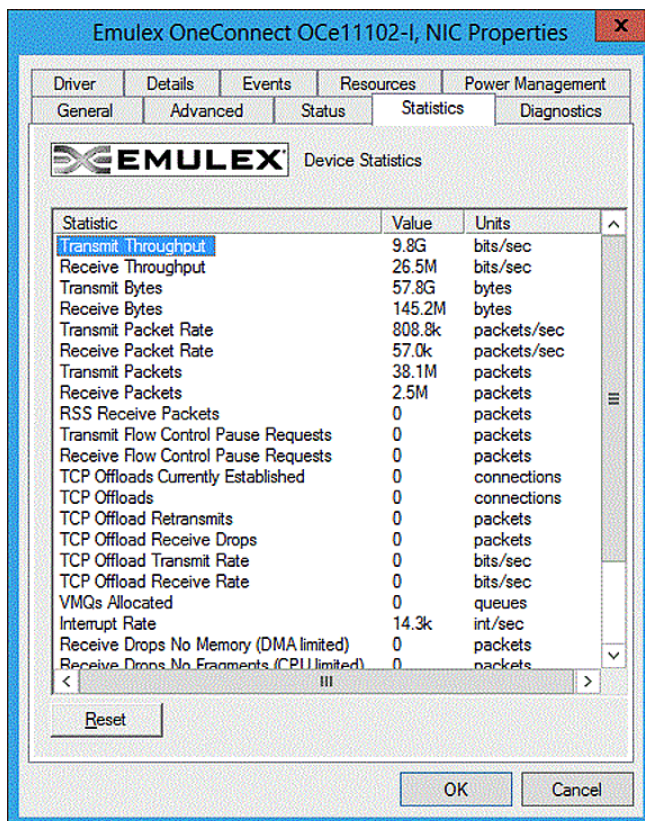

Figure 3-7 Emulex NIC Statistics Properties page
8. Select the **Statistics** tab (see Figure 3-7 on page 83). Information about the transmit and receive packets that are using the SR-IOV virtual function are displayed; specifically, the number of "Transmit Bytes" and "Receive Bytes" that are transmitted directly to hardware from the virtual function. If this number is greater than zero, the device is successfully using the SR-IOV direct hardware access.